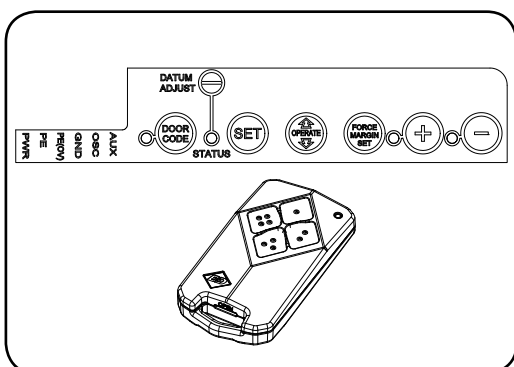

Fig. 28
- Press the DOOR CODE button twice. The DOOR CODE LED will illuminate and the courtesy light will turn on to indicate that the light code learning is active (**Fig. 28**).